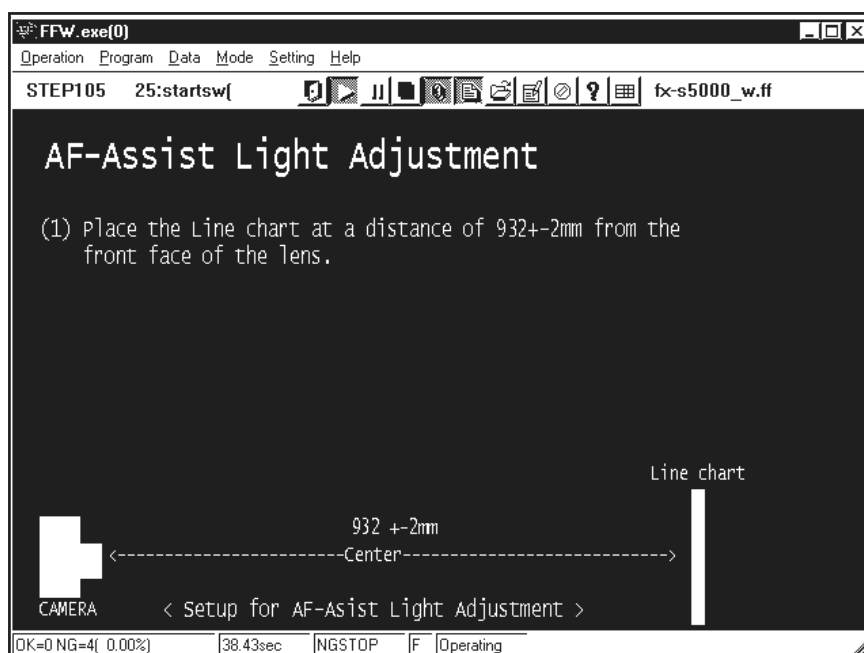

Fig.7
---> The **[AF-Assist light adjustment Preparation Screen (Fig.7)]** appears.